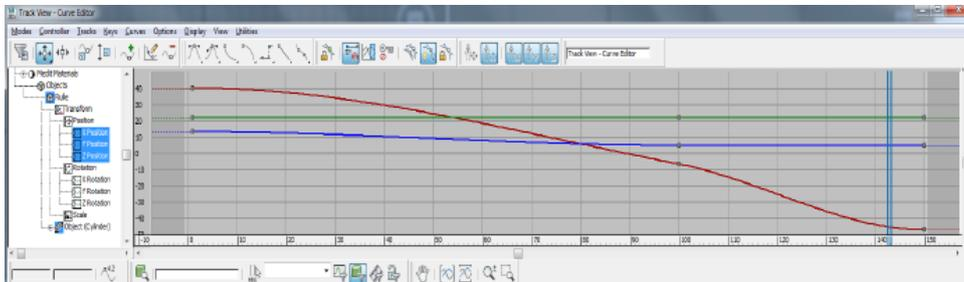

Figure 2: Track View with a few key frames
6. Every animation you do creates key frames. These key frames end up in a *track* which you can view in the *Curve Editor*, which could be considered the heart of the program when it comes to animation. *Curve Editor* is indispensable for doing more advanced things and tweak the animations to get them just right. Select *Graph Editors* → *Track View - Curve Editor* from the menu, and find the track *Objects* → *Rulle* → *Transform* → *Position*. It should look like in Figure 2.